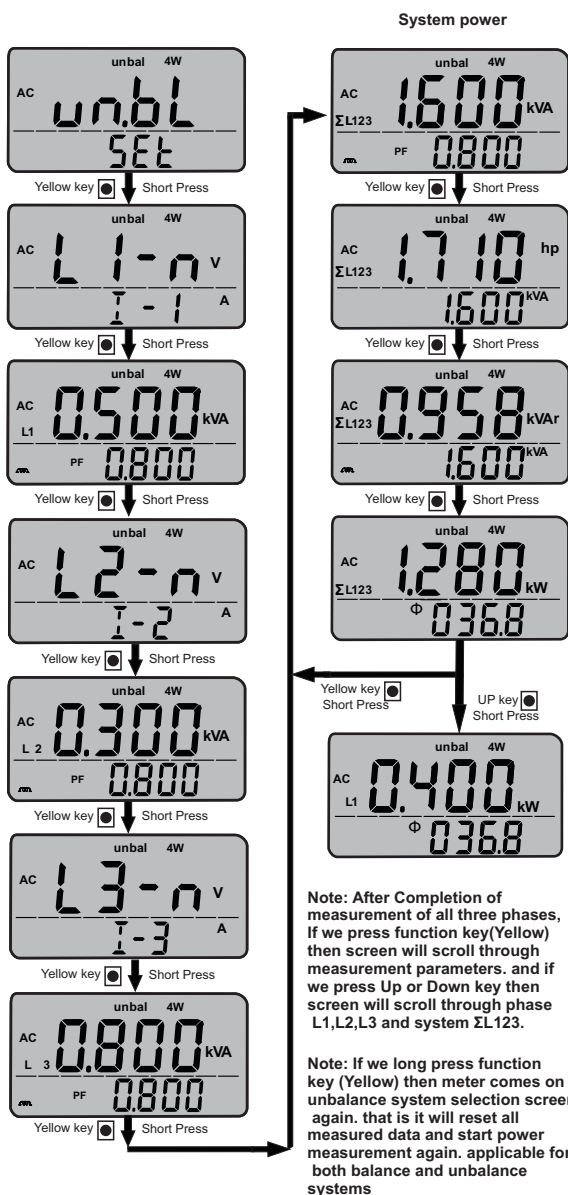

Fig 11.1.1 Power measurement 3-phase 4-wire Unbalanced load
- 7) Measure data includes Active , Reactive, Apparent Power, Power Factor, Phase angle, horse power , voltage, Current. All these parameters are measured for individual phase and for system also. After step 6 if we press function (Yellow) key then we can scroll through all above measured parameter one by one . And if we press Up or Down key we can see measured data for individual phases (L1 or L2 or L3) and for system (Σ L123). Refer Fig 11.1.1